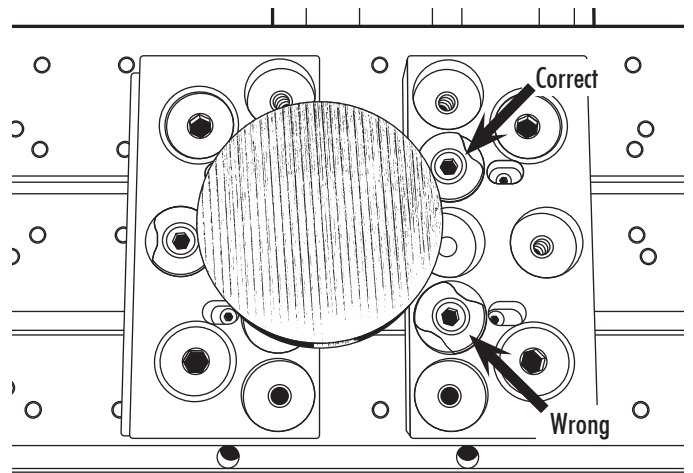

FIGURE 25—Note the correct orientation of the Versagrip jaws.
- With all of the insert screws slightly loosened and the clamping screws on the movable jaw tight, place your part in position on the fixed jaw. Then move the movable jaw in until the part makes contact with the inserts on the movable jaw. Now rotate the inserts slightly so the entire clamping area of the inserts are making contact with the part (see Figure 25).